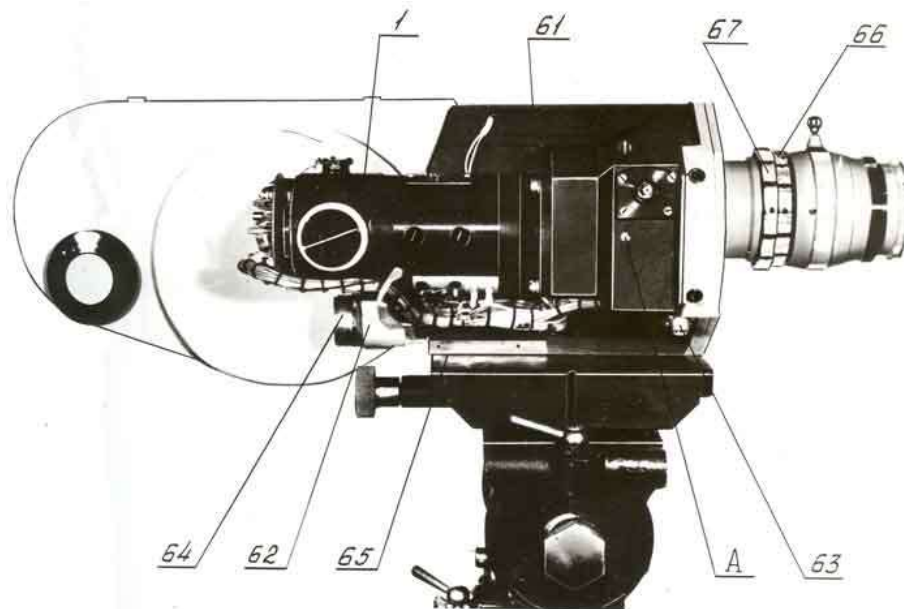

Figure 13. View from the motor side. Housing is removed.
Rear right part of the camera contains the motor unit. The motor unit consists of motor (1) (Figure 13) which flange is fastened to the body by means of the screws (61). Console part of the motor is supported by the brackets (62) (one bracket is pictured). The tachogenerator is coupled with the motor shaft and secured by means of the screw situated in the "A" hole.